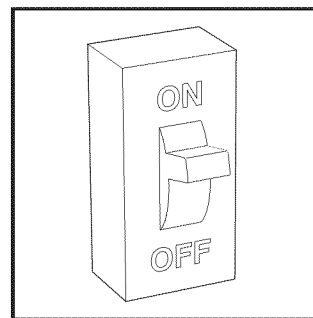

Fig. 14 - Turn on Electrical Supply
- Turn ON the electrical supply to the furnace and wait one minute. See Fig. 14.